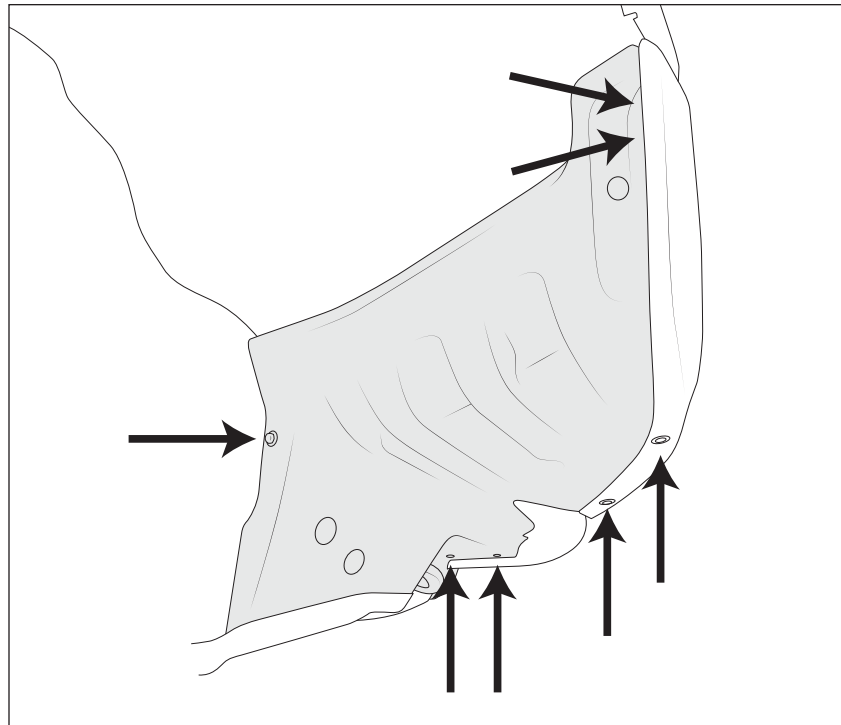

Figure 1
1. Remove wheel liner closeouts (fig. 1).